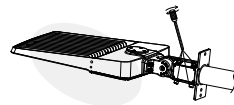

Figure 3-2-3
Step3: Mount the fixture on the light pole and fix it with screws firmly to ensure that the fixture cannot be rotated or shaken, Figure 3-2-3;